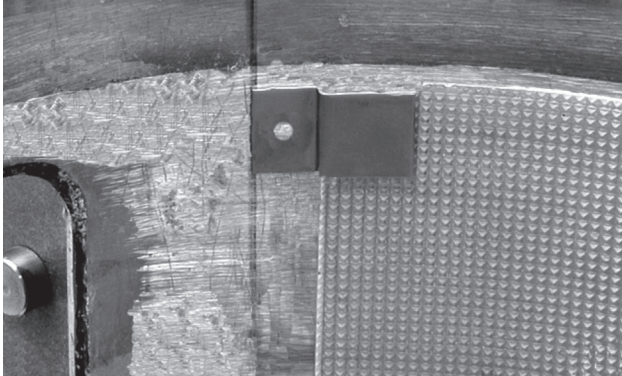
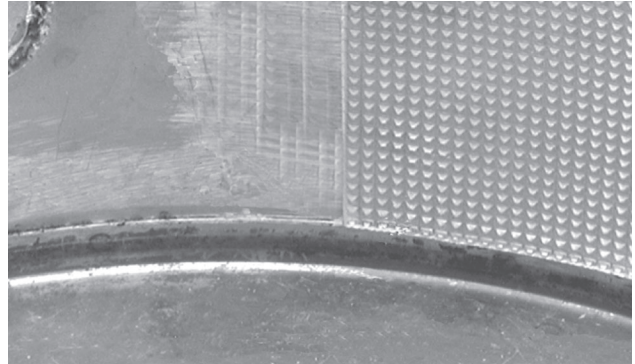

Fig. 1
Fig. 2
1. Slide the liner into the hopper, ensuring the liner is seated on the retaining brackets (Fig. 1) and resting on the top of the lip of the hopper chamber (Fig. 2).